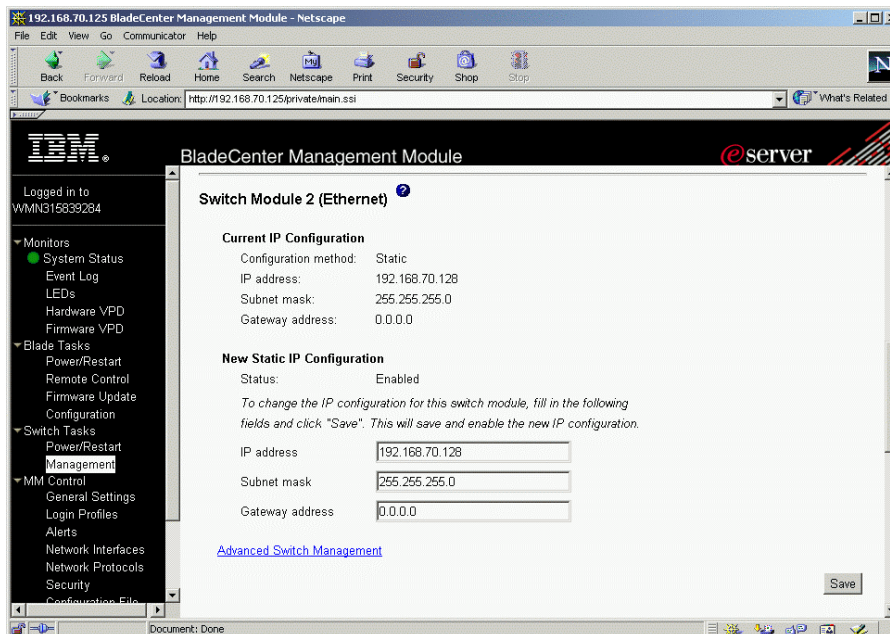

Figure 7. Switch Module 2 (Ethernet)
- On the Switch Module 2 section (Figure 7), click **Advanced Switch Management** or scroll down to the Advanced Switch Management section.